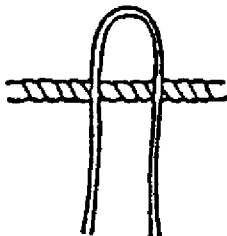

Fig. 3-31-1
- a. Fold the sling rope back on itself to form an open loop and lay this against the thick rope. (Fig. 3-31-1)